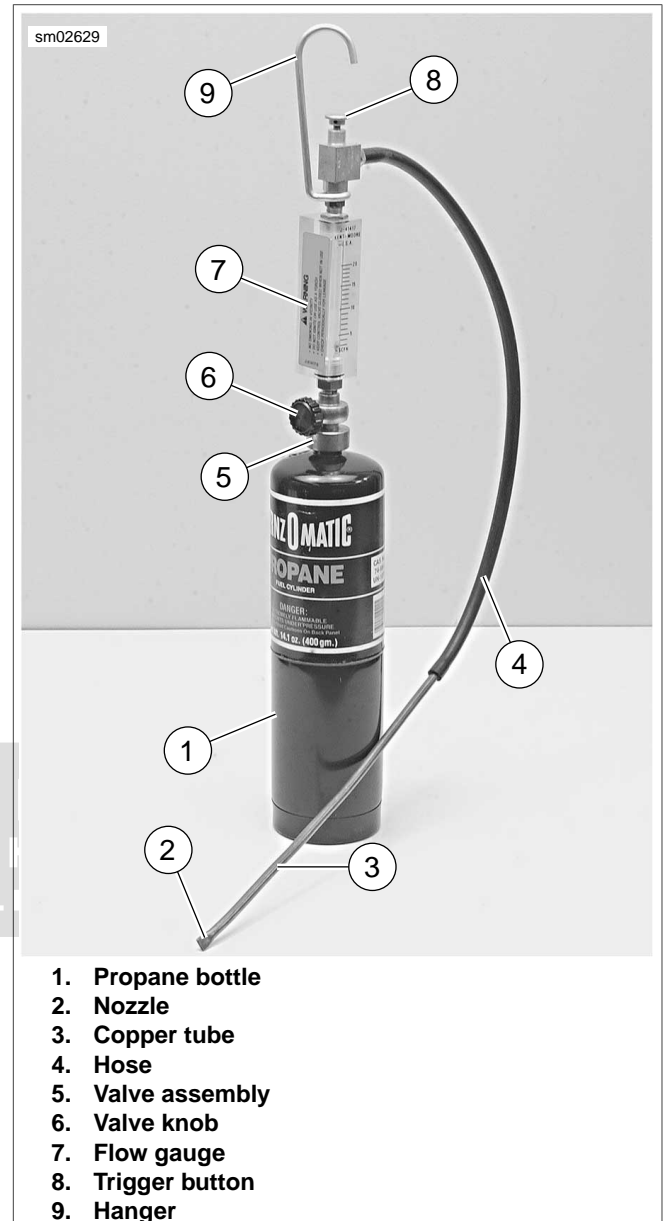

Figure 4-70. Leak Tester
- See Figure 4-70. Make sure valve knob (6) is closed (fully clockwise).
- Screw valve assembly (5) onto propane bottle (1).
- See Figure 4-70. Press and hold trigger button (8).
- Slowly open valve knob (6) until pellet in flow gauge (7) rises to between 5 and 10 SCFH on gauge.